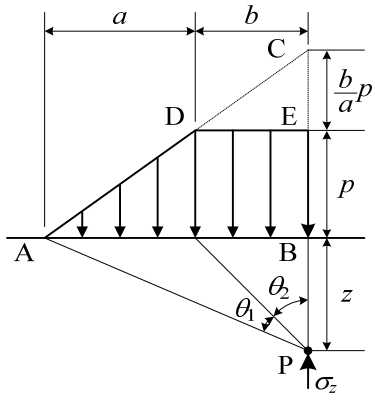

Figure 1
(2) The vertical stress generated in an elastic ground by a trapezoidal strip load (Figure 1), such as a levee or a road embankment, is calculated by Osterberg according to the following equation.